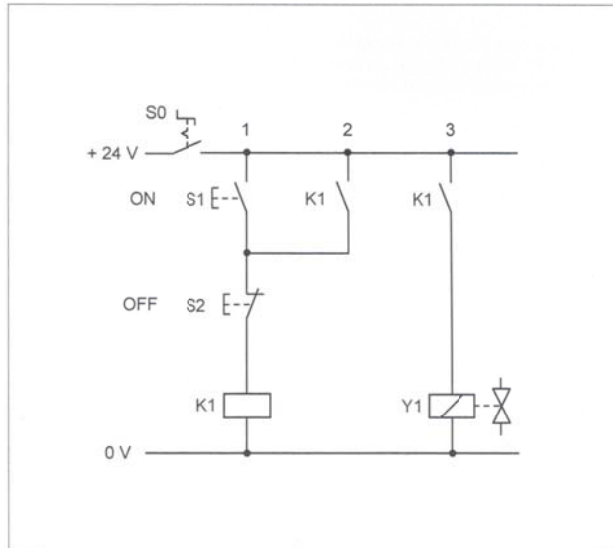

Figure 3.8: Electric circuit diagram (dominant "off")
1. Connect the circuit shown in Figures 3.8.